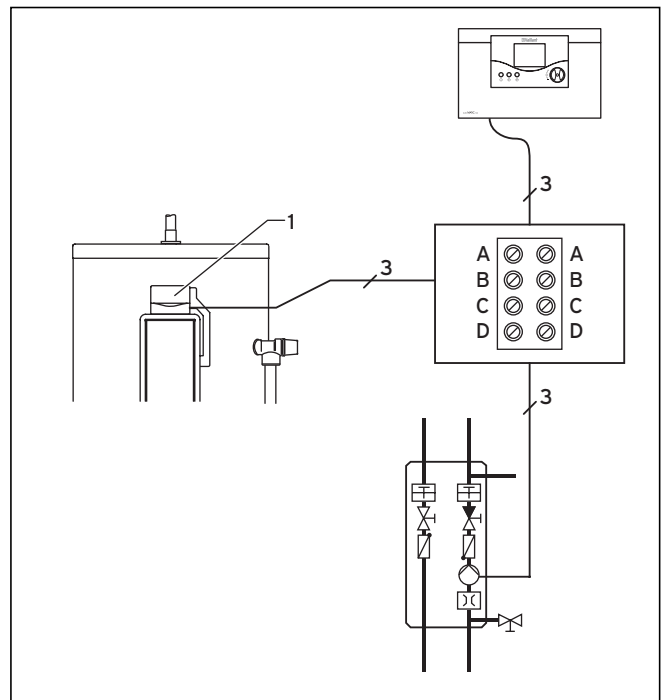

Fig. 5.30 Connection diagram of the solar pump TCO
- Connection of the solar pump to the solar control via its own thermal cut out (see Fig. 5.30)